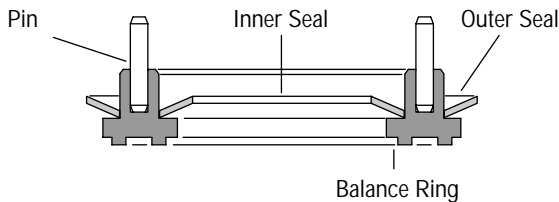

Figure 20
41 Apply petroleum jelly on inner and outer face seals. Install seals on balance ring as shown in Fig. 20.
**Important:** Install face seals in the positions shown in Figure 20 or the motor will not operate properly. Do not force or bend these face seals. Any damage to these seals will affect the operation of the motor.